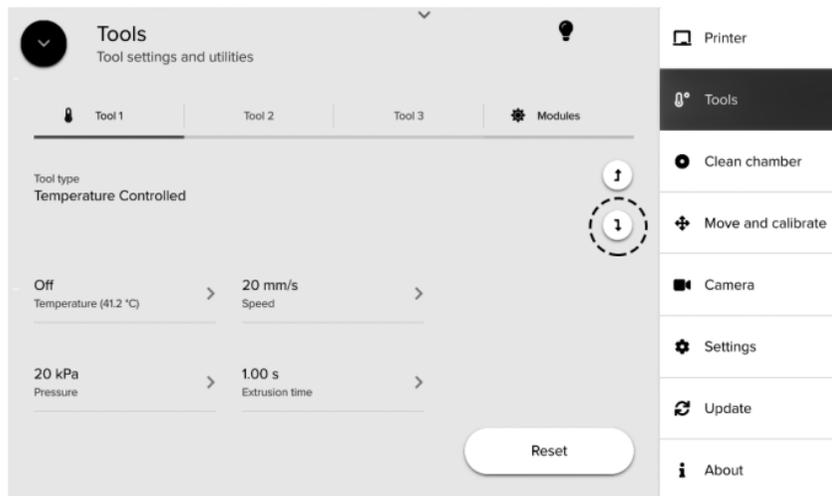

Figure 5: Lowering the printhead into the active position.
- Lower the desired printhead mount into the active or loading position by pressing the down arrow (Figure 5).